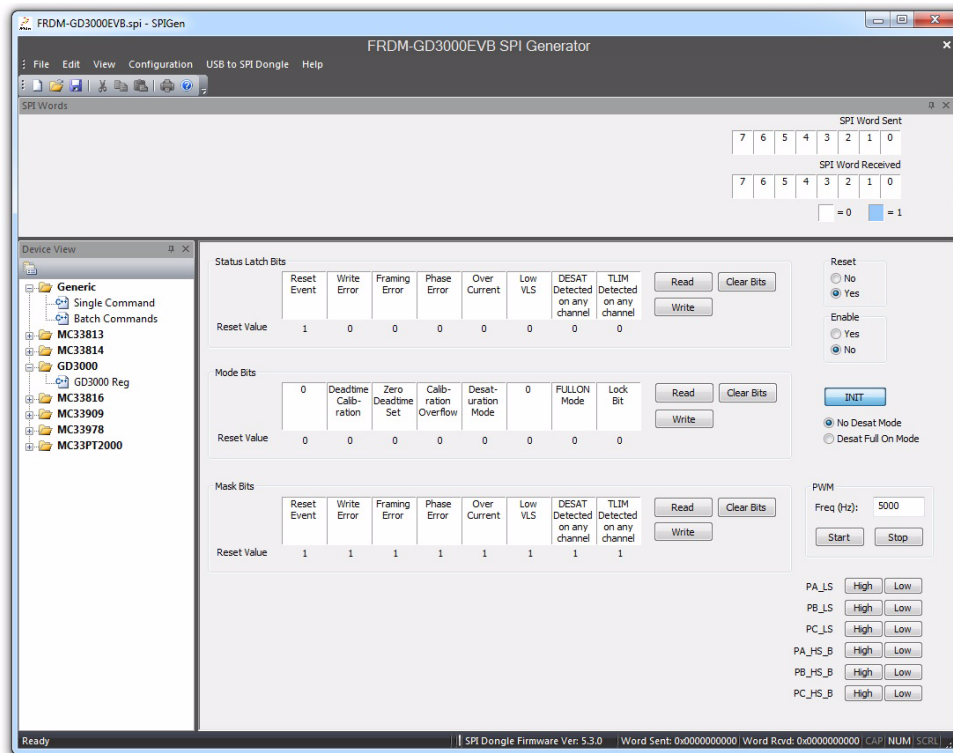

Figure 25. SPIGen GD3000 Init function
2. To initialize the device, set **Reset** to **Yes** and **Enable** to **No**, then select the **INIT** button. The MCU automatically initializes the GD3000 driver (Figure 25).